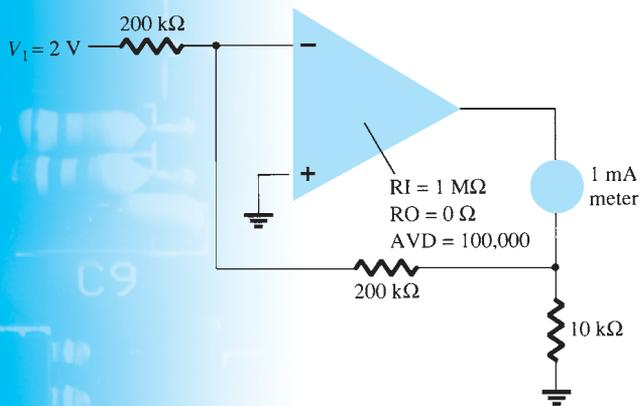

FIG. 11.61
*19. Use Design Center to calculate $I(VSENSE)$ in the circuit of Fig. 11.61.